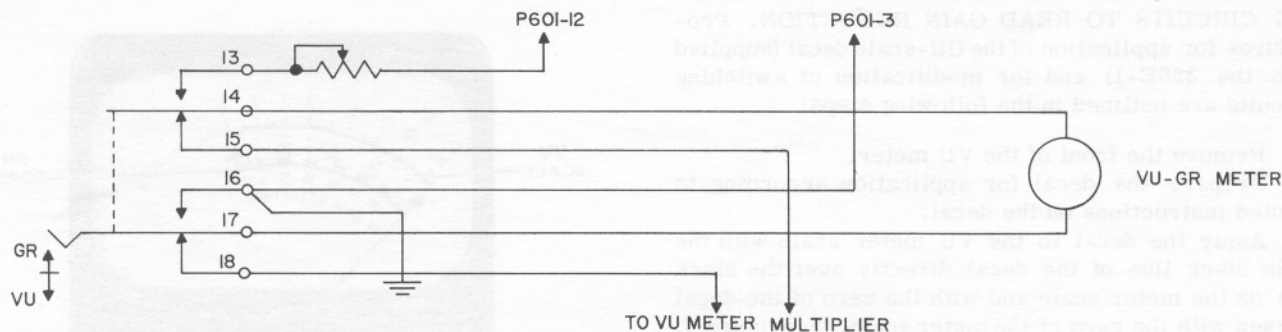

Figure 8. VU Meter and GR Switch Connections, Schematic Diagram
- If VU-GR switching is desired, refer to figure 8 for wiring connections.